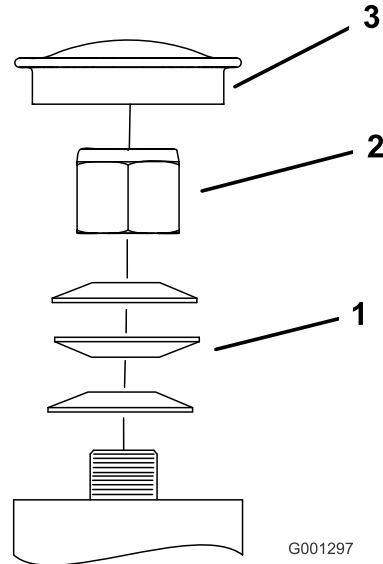

Figure 47
3. Remove the dust cap from the caster and tighten the locknut (Figure 47).
4. Tighten the locknut until the spring washers are flat, and then back off a 1/4 turn to properly set the preload on the bearings (Figure 47).
Important: Make sure that the spring washers are installed correctly as shown in Figure 47.
5. Install the dust cap (Figure 47).